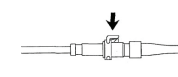

Figure 5: Disconnect
3. Press down on the thumb tab of the female coupling. Pull the male coupling out to disconnect (Figure 5).